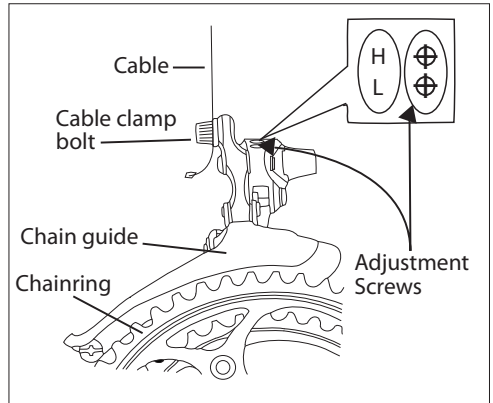

Fig. 52: Front Derailleur Adjustments.
2. Decrease the tightness of the cable clamp bolt (Fig. 52) until the cable is free.